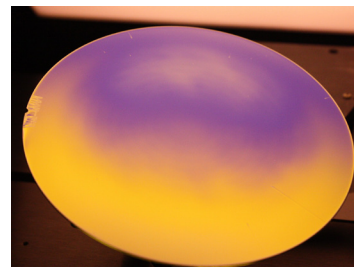

Figure 6
- The imprint of the spin chuck as well as particles can easily be seen by using the neon tube soft pink lighting (Figure 6).